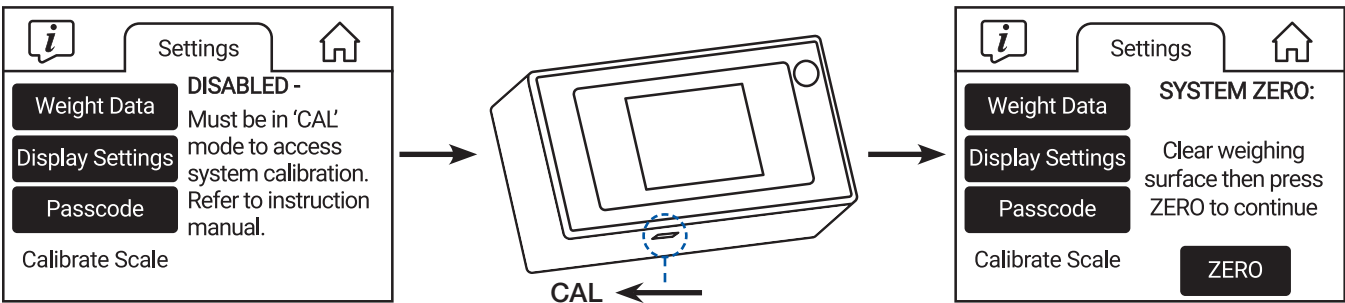

Figure 9
3. A “**DISABLED**” message will be displayed. To enable calibration, the scale must be switched to Calibration Mode. This switch can be found on the bottom of the display housing. After switching the scale to Calibration Mode, the Calibrate Scale tab will display a “**SYSTEM ZERO**” message (Figure 9).